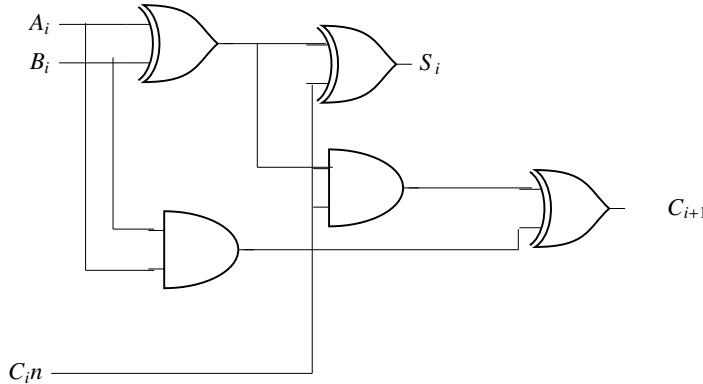

Fig. 4.18
33. Fig. 4.18 below shows the i^{th} full-adder block of a binary adder circuit. C_i is the input carry and C_{i+1} is the output carry of the circuit. Assume that each logic gate has a delay of 2 nanosecond, with no additional time delay due to the interconnecting wires. Of the inputs A_i , B_i are available and stable throughout the carry propagation, the maximum time taken for an input C_i to produce a steady-state output C_{i+1} is _____ nanosecond.